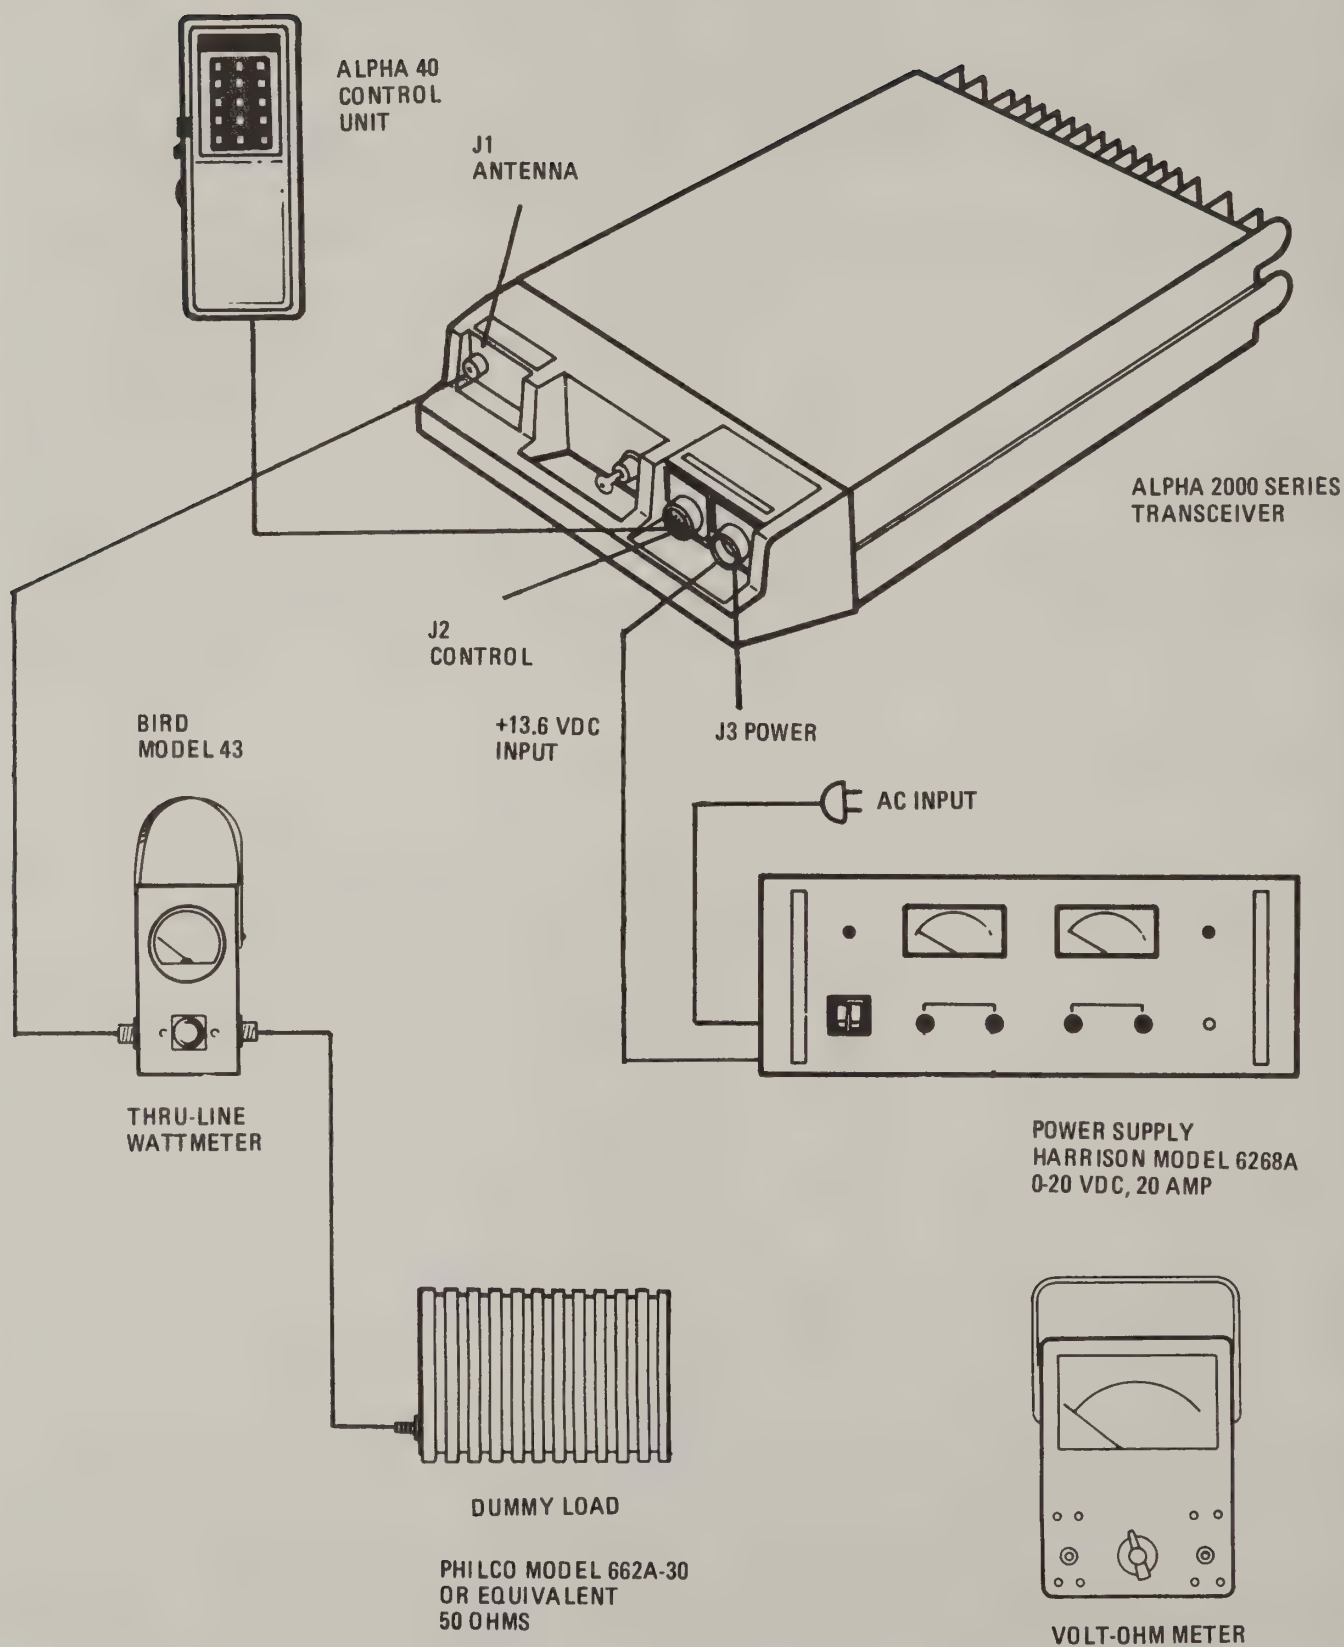
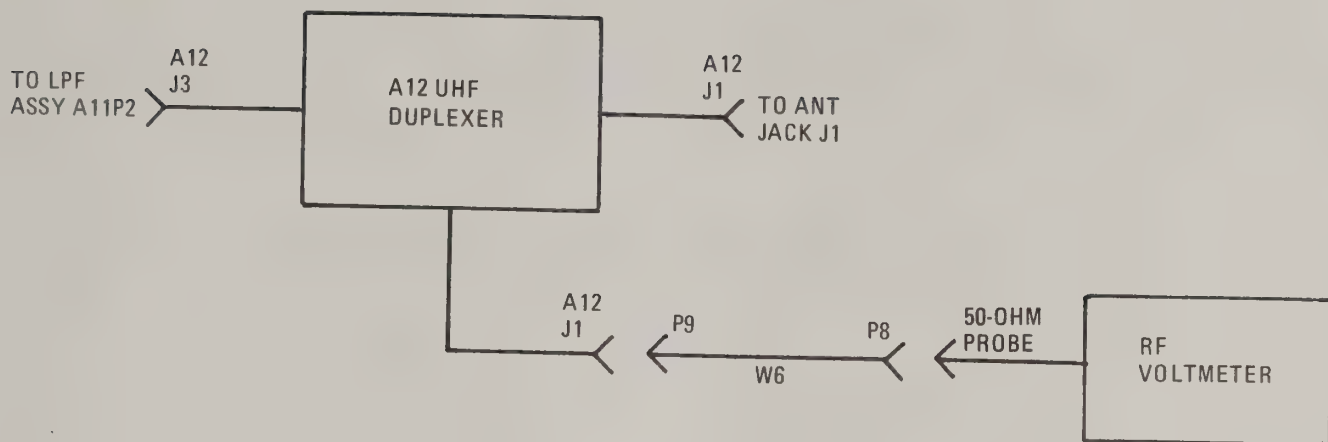

Figure 1. UHF/VHF Duplexer, Test Setup
Figure 2A. UHF Duplexer, Test Setup, Adjusting Receive Cavities for Transmit Frequency Notch
5.01 All significant signal inputs and outputs are shown on the tab cover diagrams. The adjustments indicated by the alignment procedures described in these paragraphs are made at the factory prior to shipment. Normally, it should not be necessary to repeat any of these adjustments unless there are component failures or unless readjustment becomes necessary for some other specific reason. Removal of the Transceiver cover facilitates the maintenance and adjustment of the Duplexer. These adjustments can be made using the test equipment shown in figure 1 or their equivalents. There are no adjustments required for the Low-Pass Filter Modules.
- (a) For UHF, connect test equipment as shown in figure 1, and in figure 2A, and select center frequency at Control Unit.
- (b) For VHF, connect test equipment (except dummy load - see figure 2B) as shown in figure 1, and 2B, and select center frequency at Control Unit.